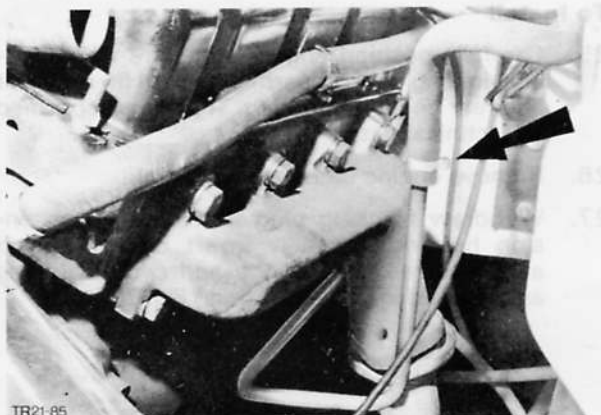

Fig. 31. Slide brake servo vacuum hose on to line and secure
33. Slide brake servo vacuum hose on to line and secure, Fig. 31.